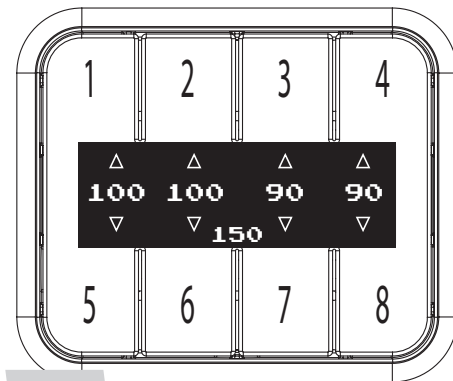

fig. 17
1. MANUAL mode allows the user to fill or exhaust each spring independently. The display will show arrows above and below the pressures to indicate manual control mode (fig. 17). The arrow will be solid when the spring is filling/exhausting, and outlined when not active.